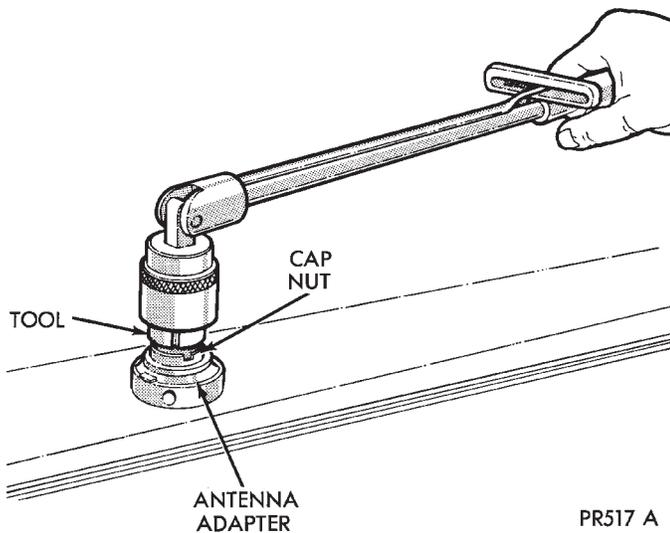

Fig. 12 Removing or Tightening Antenna Cap Nut
(3) Remove cap nut with Antenna Nut Wrench C-4816 (Fig. 12).
- Remove cap nut on fender surface with Antenna Nut Wench C-4816 (Fig. 12).